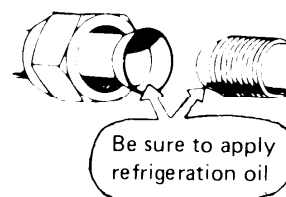

Fig. 23
- Be sure to apply refrigeration oil to the matching surfaces of flare and union before connecting them together. This is effective for reducing gas leaks. Fig. 23